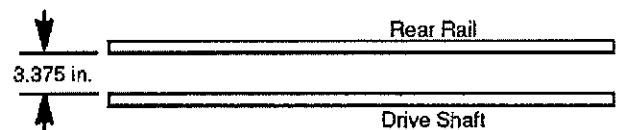

FIG. 29
2. Align the drive shaft and rear carriage rail (FIG. 29) so the distance between their facing surfaces is 3.375" +/- .010 (85.75 mm +/- 0.25). See FIG. . Then tighten the support block bolts.